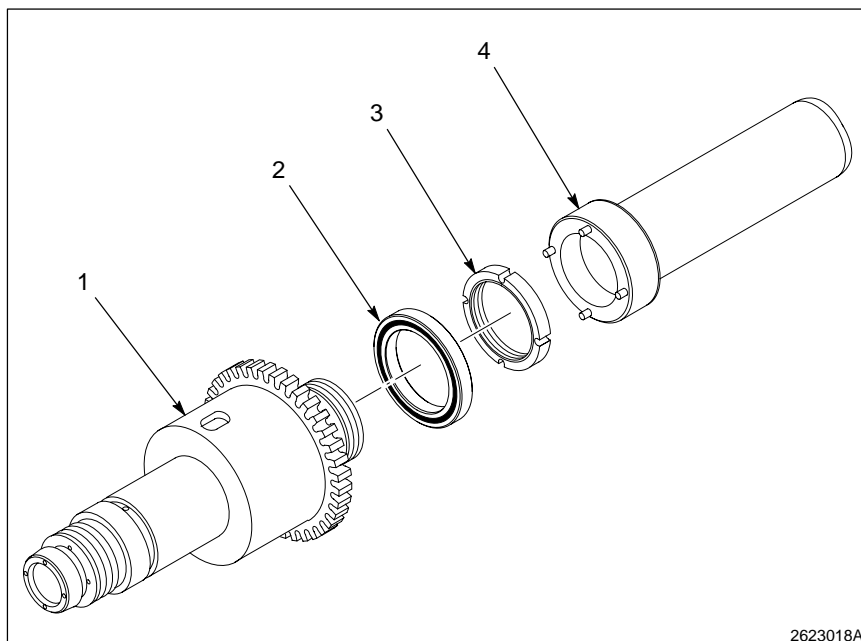
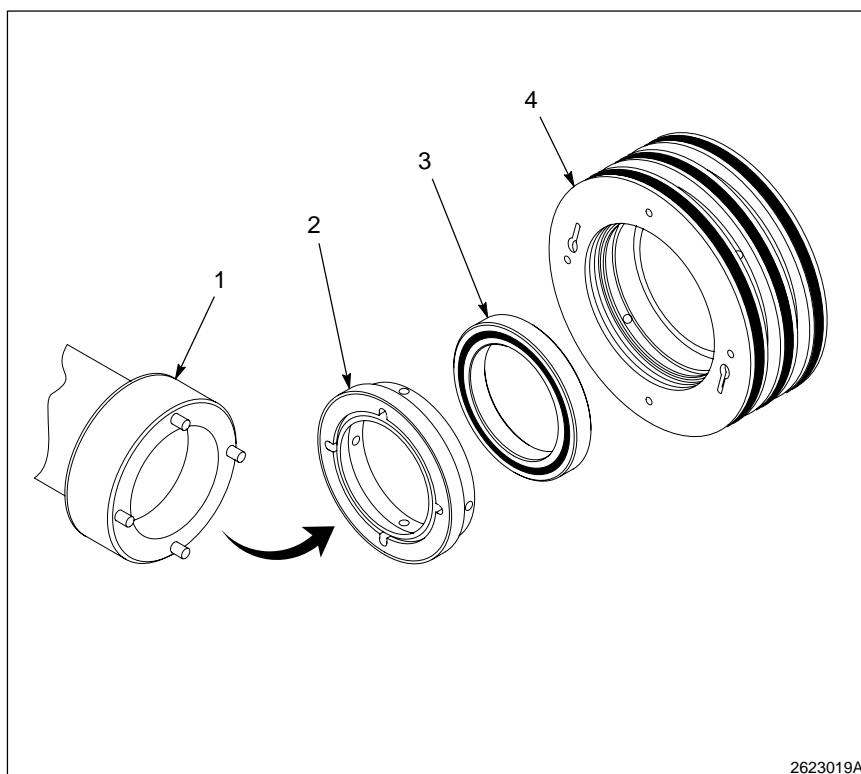

Fig. 7-6 Rear bearing disassembly
Fig. 7-8 Front bearing holder disassembly
2. See Figures 7-6. Press down on the spindle lock button. Use the bearing nut wrench (4) to remove the rear bearing nut (3).
7. See Figure 7-6. If the spindle (1) did not come out of the housing with the front bearing holder, carefully remove it.
8. Remove the rear bearing (2) and rear bearing nut (3).
9. See Figure 7-8. Use the bearing nut wrench (1) to remove the front seal (2) from the front bearing holder (4).
10. Remove the front bearing (3) from the front bearing holder (4). Push from the back side using fingers. Apply equal pressure to both sides. Do not force.
4. See Figure 7-6. Insert the rear bearing nut (3) with the raised shoulder against the bearing. If shoulders are present on both sides, the orientation does not matter.
3. See Figure 7-8. Install, using fingers, the front bearing (3) into the front bearing holder (4).
4. Install the front seal (2) into the front bearing holder (4) using the bearing nut wrench (1). Make sure the seal points forward, facing outward from the front bearing holder.